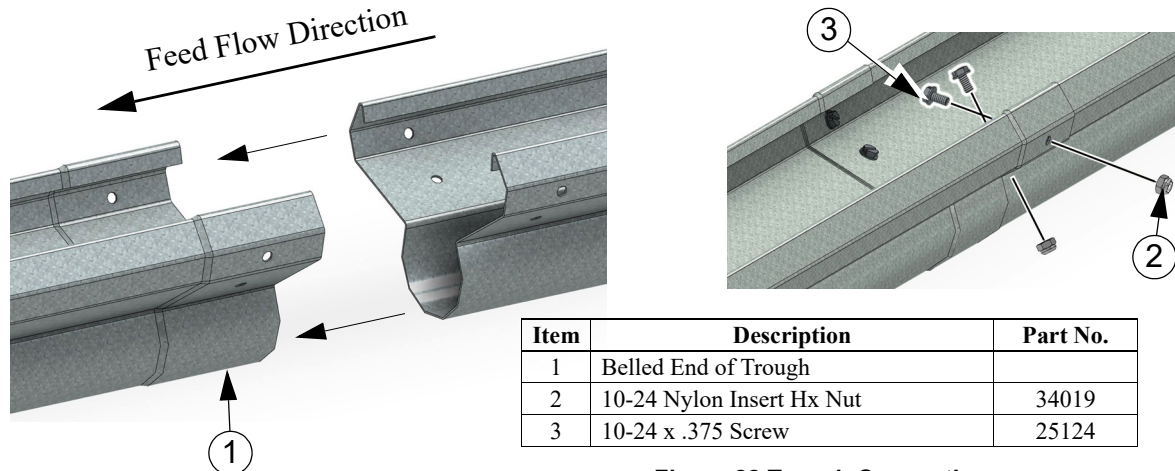

Figure 22. Trough Connection
1. Install a Hanger at the next trough joint. Slide the straight end of the trough into the belled end of another section of trough, as shown in **Figure 22**.
2. The trough sections are factory punched for (4) 10-24 bolts and locking nuts (**Items 2 and 3**).